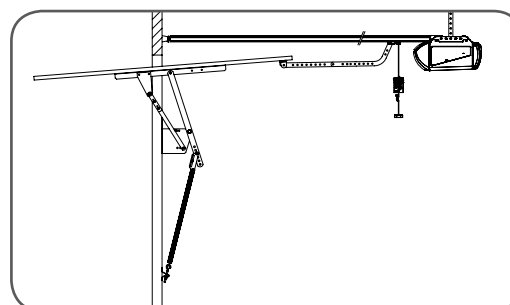

fig 19
- Assemble the bent and straight arms as shown in (**Fig. 19**) with bolts and nuts supplied in the accessory pack. Always use both the bent and straight arms.